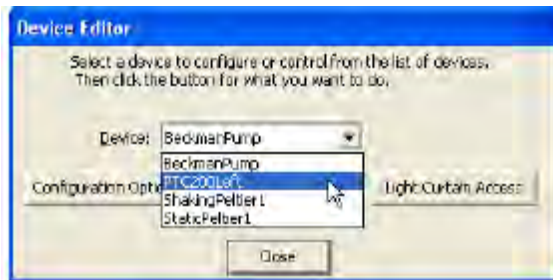

Figure 8 Device drop-down menu.
2. From the **Device** menu, select **PTC-200 Left** (Figure 8).